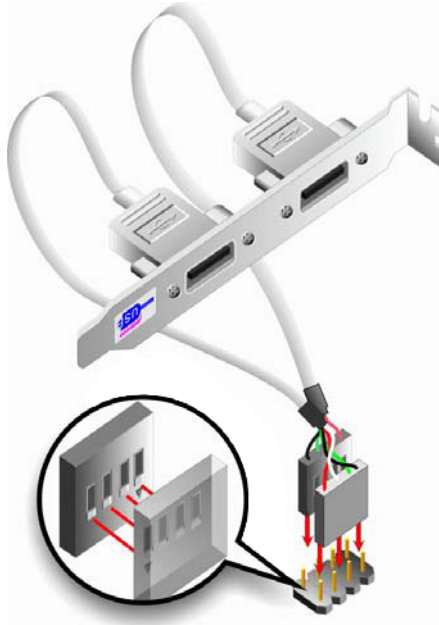

Figure 5-18: Dual USB Cable Connection
Step 3: Insert the cable connectors Once the cable connectors are properly aligned with the USB connectors on the 3307680, connect the cable connectors to the onboard connectors. See **Figure 5-18**.